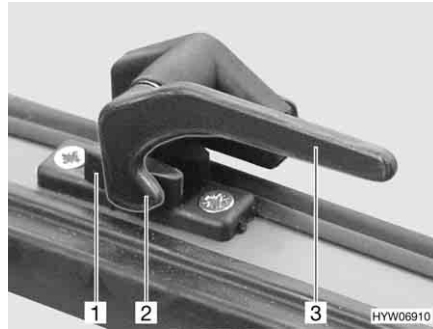

Fig. 75 Catch lever in "closed" position
- Turn the catch lever (Fig. 75,3) a quarter turn towards the centre of the window.
- Turn the catch lever (Fig. 75,3) a quarter turn towards the window frame. The locking catch (Fig. 75,2) is located on the inside of the window catch (Fig. 75,1).
- Firmly closed (Fig. 75)